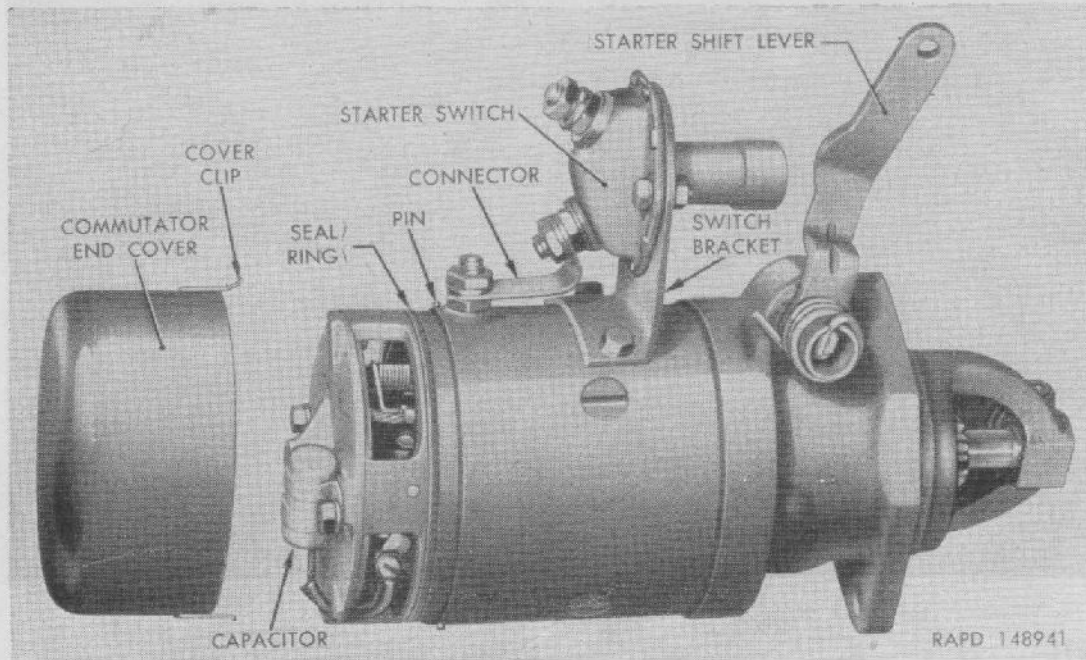

Figure 74. Starter with end cover removed.
- (1) Remove starter (*a* above). Wipe all dirt from exterior of starter.
- (2) Disengage two cover retaining clips from pins in starter field frame. Pull cover off end of starter; then remove seal ring from groove in field frame (fig. 74).
- (3) Inspect commutator for dirty condition, roughness, high spots, and high mica. If commutator is dirty, clean with grade 2/0 flint paper. *Do not use emery cloth for cleaning commutator.* Blow out dust with compressed